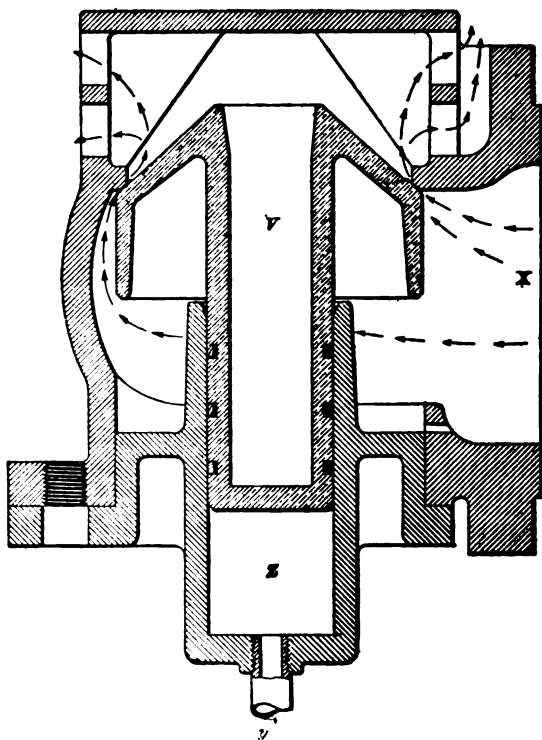

FIG. 33.
**64. Automatic Air-Discharge Valve.**—A sectional view of the air-discharge valve *K* (see Fig. 27) is shown in Fig. 33. As will be seen, the stem on the valve *V* is provided with three packing rings to make it steam-tight. The pipe *y* connects with the live-steam passage that leads to the low-pressure steam chest, so that there is direct connection between that steam chest and chamber *Z*. The chamber *X* is in direct connection with the exhaust passage *c*, Fig. 30. The action of the valve is as follows: Chamber *Z* is filled with steam as long as the throttle is opened, and the steam exerts a pressure on the end of the valve stem that holds the valve *V* up against its seat, as shown. When the throttle is closed, however, the valve drops down and a direct opening is made between the exhaust passage *c* and the atmosphere, as indicated by the arrows. Thus, when the locomotive is drifting, air can pass either from or to the low-pressure cylinder through the air-discharge valve without passing through the exhaust pipe, and the result is that the action on the fire, caused by the discharge of air from the cylinder through the exhaust pipe, is very much modified, while sparks and hot gases are prevented from being drawn into the cylinder.